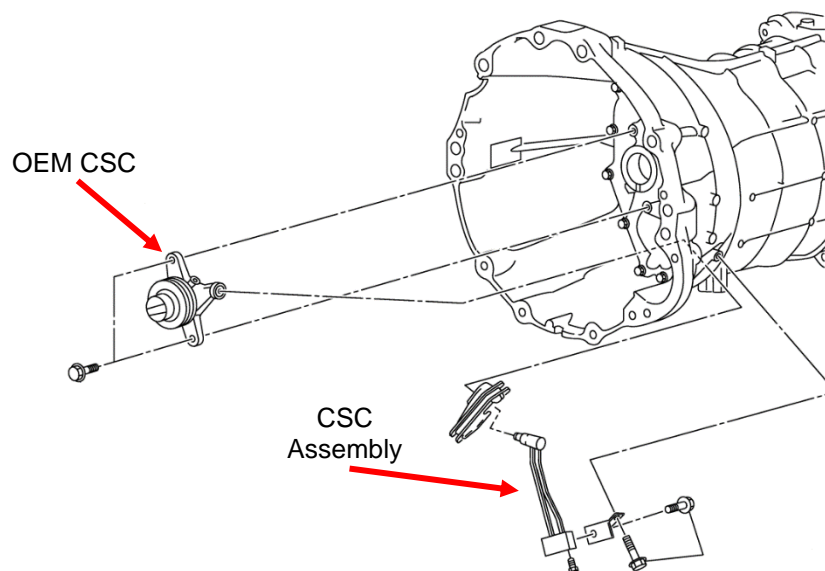

Figure 5
26. Locate Transmission. Remove Concentric Slave Cylinder assembly as outlined in Nissan FSM. See *Figure 5* below.